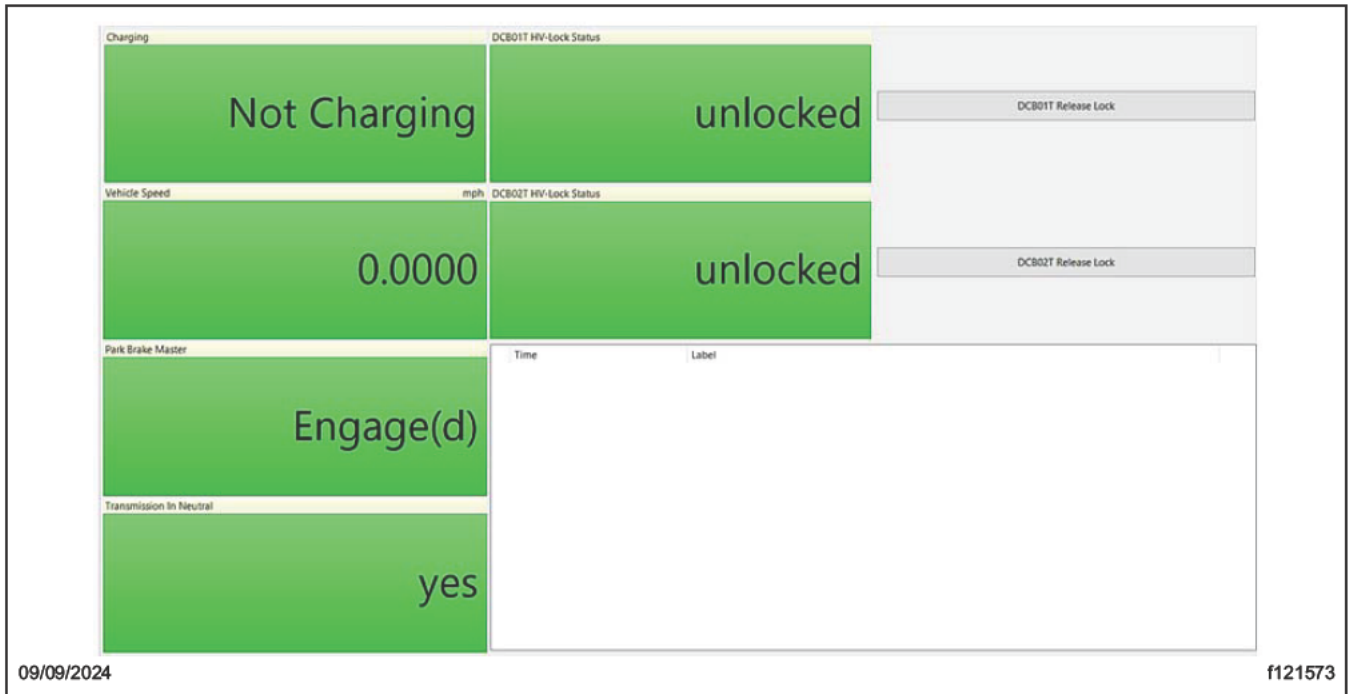

Fig. 38, DCB Lock Release Panel
- 19.1 If the 'DCB HV-Lock Status' does not show as 'unlocked,' select the 'DCB Release Lock' button, and allow the procedure to complete. See Fig. 38.